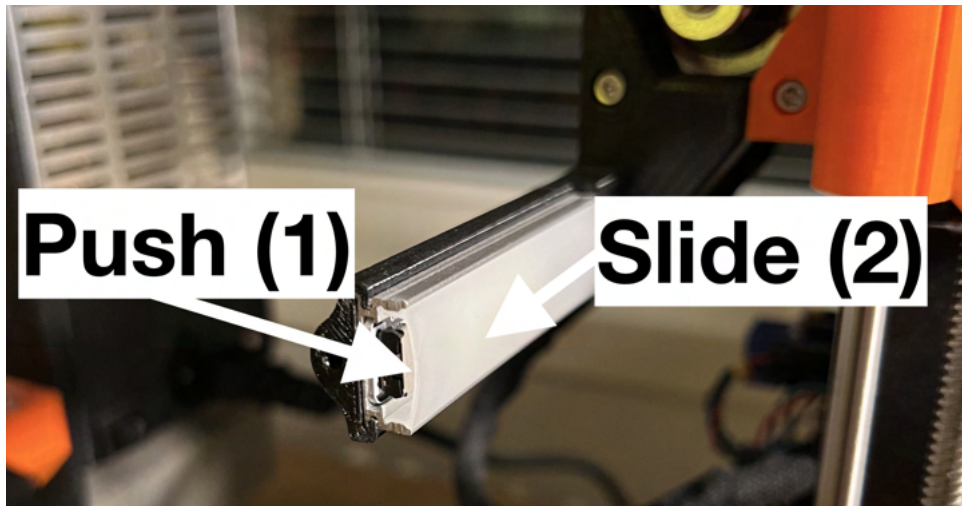

Figure 16: Illustration of two options marked by (1), (2), for how to remove the LED diffuser.
2. Remove the cap by pulling it towards you, at this stage it should look like 16. Process to either (1) push off the diffuser where the arrow points or try to slide it off in the direction shown by (2) in Figure 16.